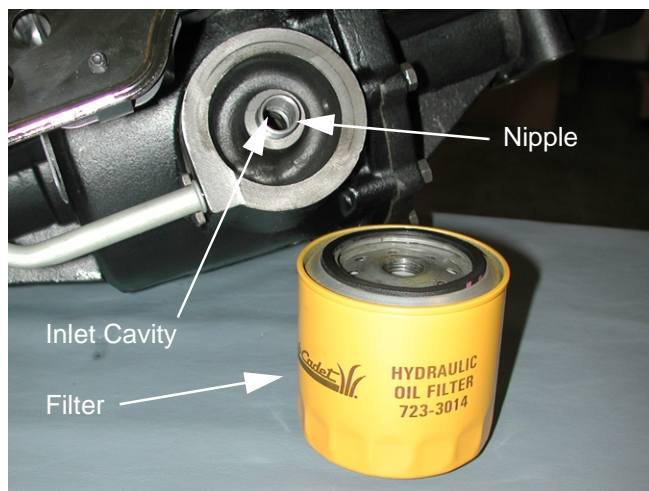

Figure 1
3. Remove the hydraulic oil filter and drain any remaining fluid. See Figure 1.